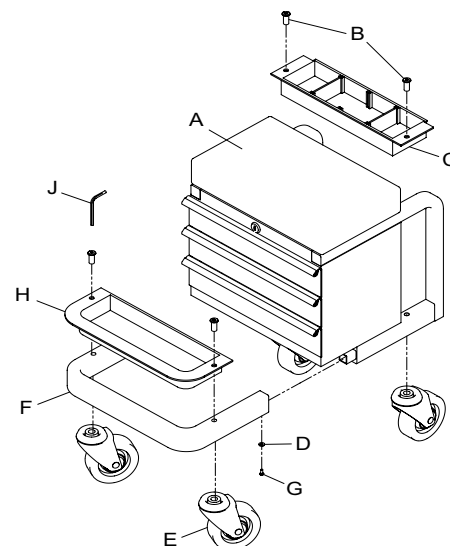

Figure 1 - Assembly
Before beginning assembly of product, make sure all parts are present. Compare parts with package contents list and Figure 1 illustration. If any part is missing or damaged, do not attempt to assemble, install or operate the product. Contact customer service for replacement parts.
## ASSEMBLY INSTRUCTIONS (ref. Figure 1)
1. Join frame sections by inserting front frame section (F) into channel sections of tool box subassembly (A). Line up screw holes and thread screws (G) fitted with washers (D) into corresponding holes in channel sections. Do not tighten screws yet.
2. Assemble a caster (E) and a tool tray (C or H) simultaneously. Position a caster stud into lower frame hole as seen in Figure 1. Place tool tray into position by aligning the lower frame thru-hole with corresponding hole in tool tray. Insert caster fastener into the swivel caster stud.
## OPERATING INSTRUCTIONS (Refer to Fig. 1)
Avant d'assembler le produit, assurez-vous d'avoir toutes les pièces. Comparez les pièces que vous avez sous la main avec la liste du contenu de l'emballage et l'illustration de la figure 1. Si une pièce est endommagée ou manquante, n'assemblez pas, n'installez pas et n'utilisez pas le produit. Communiquez avec le service à la clientèle pour obtenir des pièces de rechange.
## INSTRUCTIONS D'ASSEMBLAGE (voir figure 1)